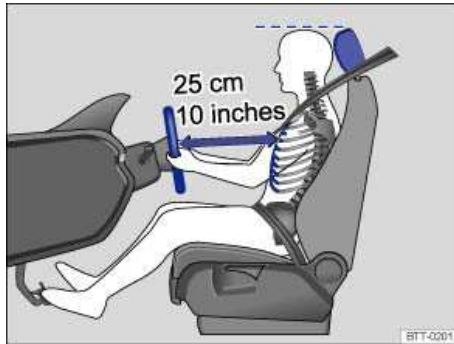
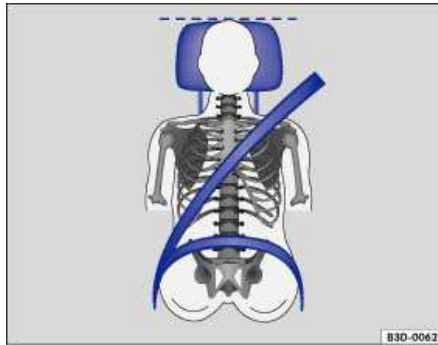

Fig. 32 The driver should never sit closer than 10 inches (25 cm) of the steering wheel.
Fig. 33 Proper safety belt positioning and head restraint adjustment.
- Adjust head restraints so that the upper edge of the head restraint is at least at eye level or higher. Position the back of your head as close as possible to the head restraint ⇒ fig. 32 and ⇒ fig. 33.
- Adjust the steering wheel so that there are at least 10 inches (25 cm) between the steering wheel and your breast bone ⇒ fig. 32. When adjusting the proper distance to the steering wheel, grasp the top of the steering wheel with your elbows slightly bent.